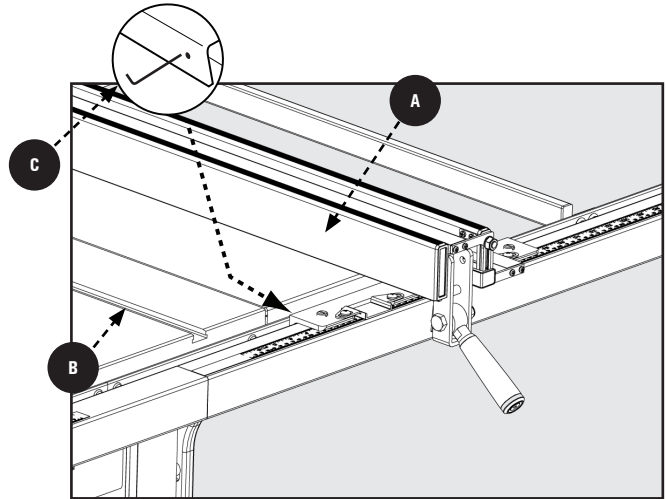

Figure 31
2. If the fence face **A**, Figure 31, is not parallel to the miter slot **B**, raise the clamping lever and lift the fence and place it on the saw table.